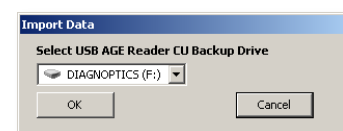

Figure 28. Select USB Device.
- Choose the USB Drive with the Backed up CU measurements as shown in figure 28.